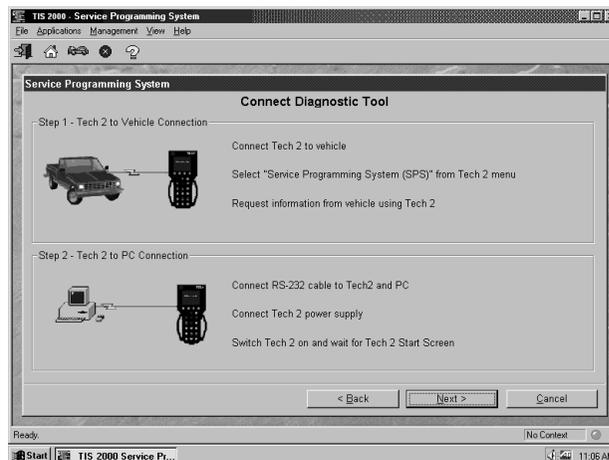

FIGURE 8-22. Connect Diagnostic Tool Screen
- f. A reminder screen appears for making the appropriate connections (Figure 8-22). Select **Next** after confirming connections.